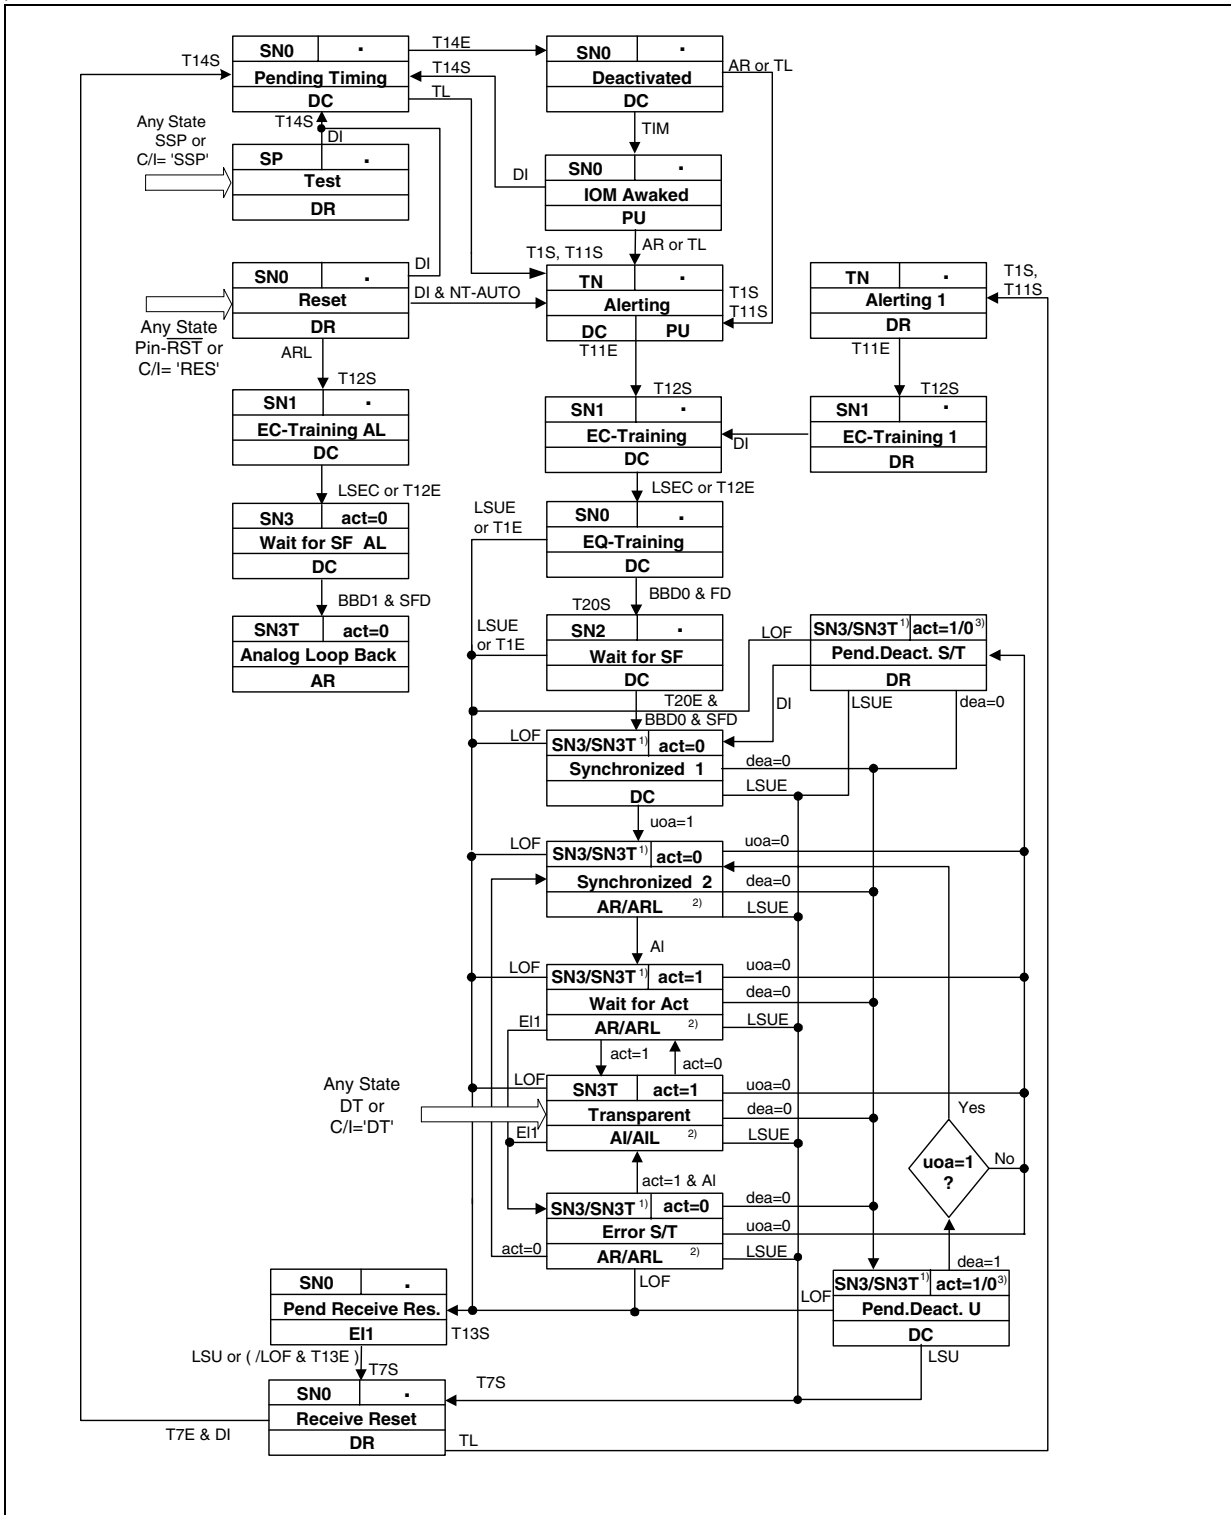

Figure 10 Standard NT State Machine (IEC-Q / NTC-Q Compatible) (Footnotes: see "Dependence of Outputs" on Page 26)
- Outputs denoted with 1) in Figure 10: